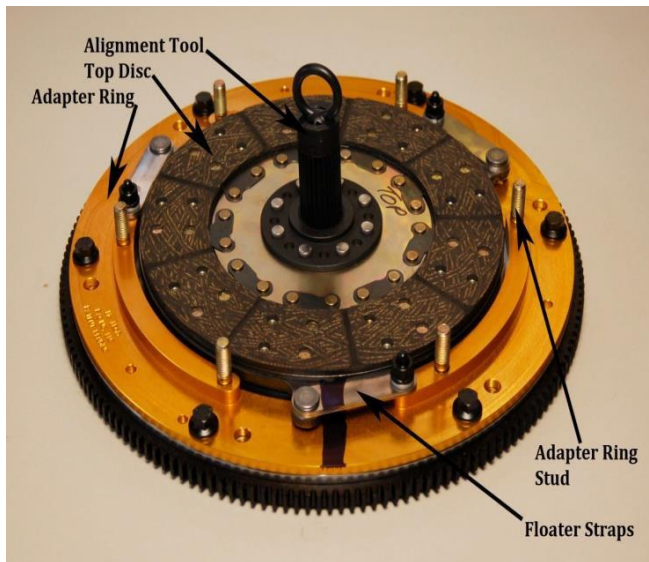

Figure 5
- 8) Install the top disc using the alignment tool and be certain it fully engages the pilot bearing to correctly center the discs. Figure 5